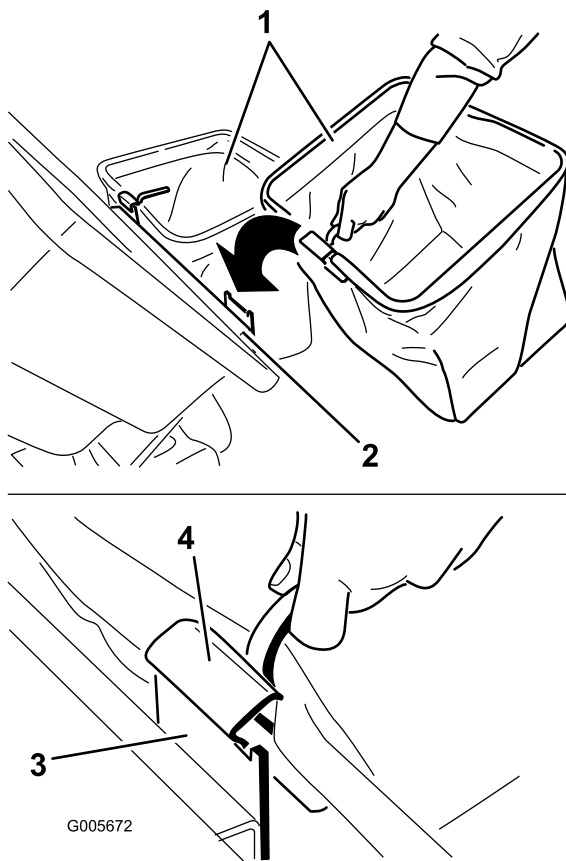

Figure 25
- Install the bags by sliding the bag frame hooks onto the retaining brackets (Figure 25).